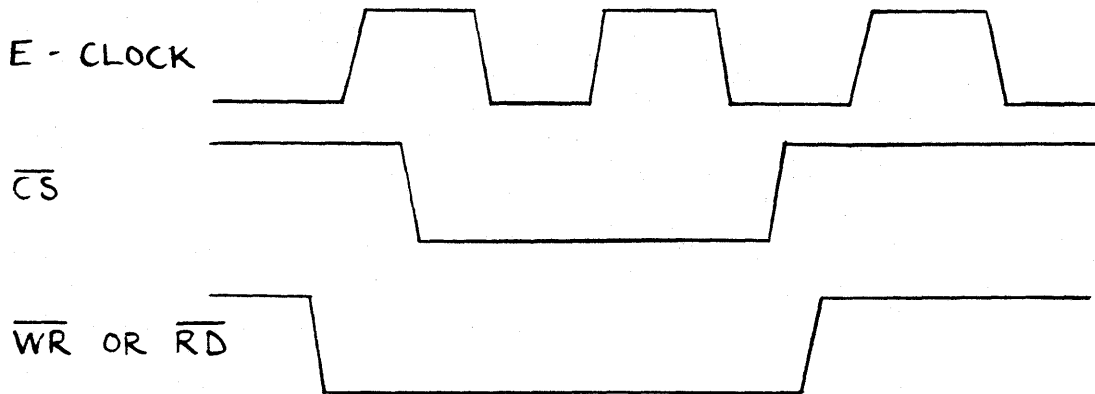
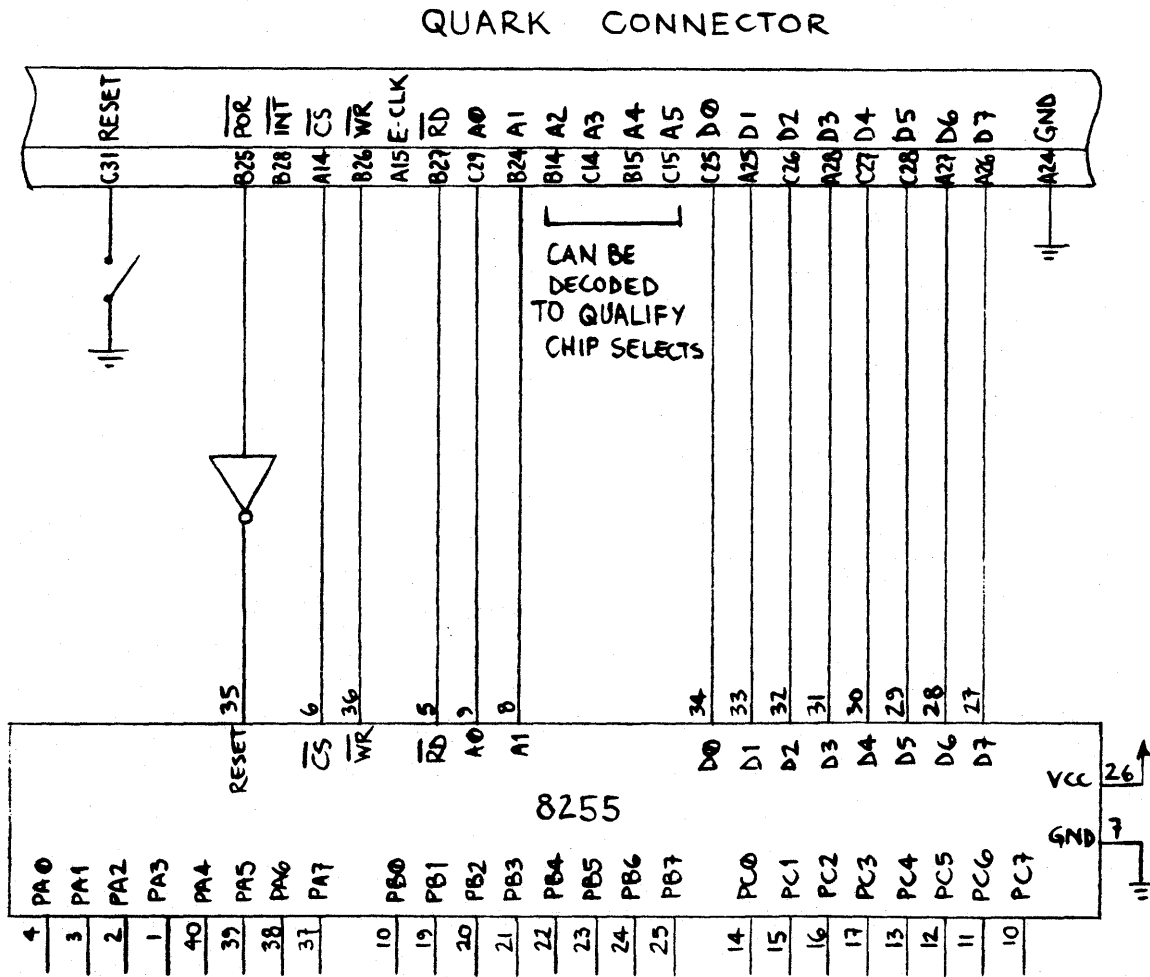

FIGURE 1. Relative Signal Timing on the Peripheral Expansion Interface
FIGURE 2. Adding a Single "Non-A" 8080-type Device
The Read (RD) and Write (WR) lines generated by the Z80B are brought out on the Peripheral Expansion Interface. These two lines would be used with some 8080-compatible peripheral devices, such as the 8251 UART or the 8255 PPI. Other 8080-compatible devices (chiefly A-version types like the 8255A) require that the Address and CS lines be stable before WR goes low. Check the timing diagrams for the device against the timing diagram for the Quark given in Figure 1. If the Address and CS lines need not be stable before the WR, then connect the device as shown in Figure 2. Alternatively, if the CS must be stable before the WR goes low, then connect the device as shown in Figure 3.